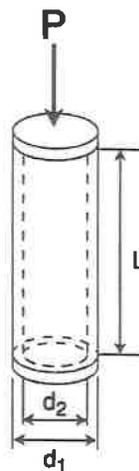

Fig. 1
1. (15%) Fig. 1 shows a steel pipe of length $L = 800\text{mm}$, outside diameter $d_1 = 200\text{mm}$, and inside diameter $d_2 = 150\text{mm}$ is compressed by an axial force $P = 600\text{kN}$. The material has modulus of elasticity $E = 210\text{ GPa}$ and Poisson's ratio $\nu = 0.3$. Determine the following quantities for the pipe: